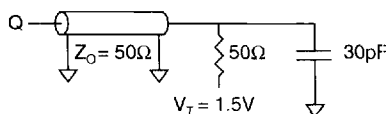

Fig. 1 OUTPUT LOAD EQUIVALENT
Output load	See Figures 1 and 2
5. Test conditions as specified with the output loading as shown in Fig. 1 unless otherwise noted.
6. Output loading is specified with C_L = 5pF as in Fig. 1. Transition is measured ±500mV from steady state voltage.